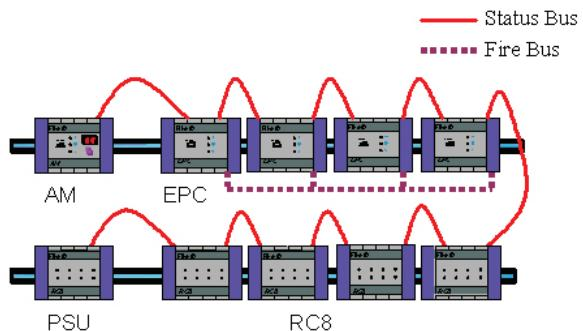

Figure 1: Single Loop Schematic Representation of the Bus Network
The Announcer Module (AM) is a local call-in point for all connected devices of a bus. In figure 1, a full setup is shown with the maximum number of each type of component that can compose a 'Single Loop.' In practical terms, a loop collects explosion protection controls of a larger protected area containing two or more connected vessels that are being protected.